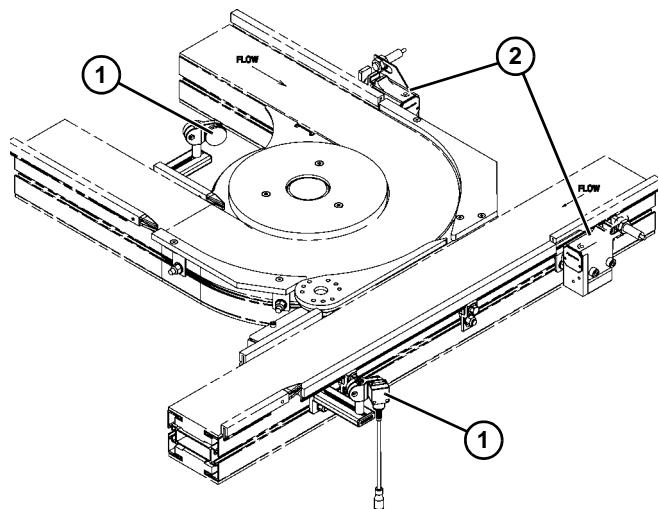

Figure 44
A photo eye kit (**Figure 44**, item 1) can be mounted in a manner that will sense pallets in the divert and merge zone.
- Once pallet has cleared the photo eye, the traffic control stops (**Figure 44**, item 2) can allow a new pallet into the zone.